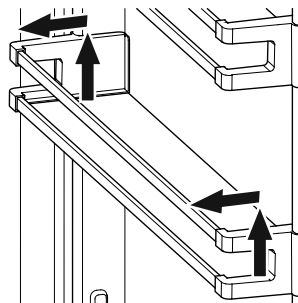

Figure 24
- Remove the door racks as shown in **Figure 24**.